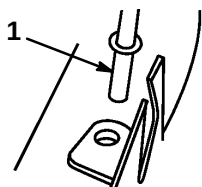

Figure 37
5. Insert the chute support rod through the hole in the right side of the deck (Fig. 37).